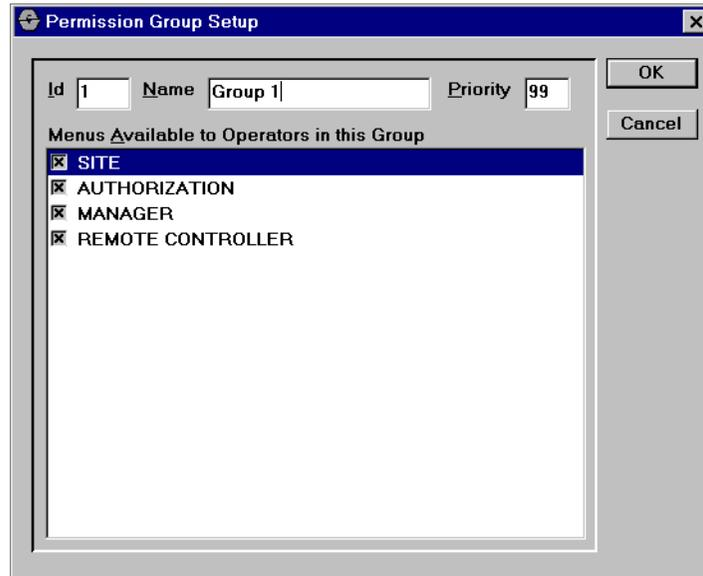

Figure 48: Permission Group Setup Window
2. Double-click a list item to open the Permission Group Setup dialog box (Figure 48).